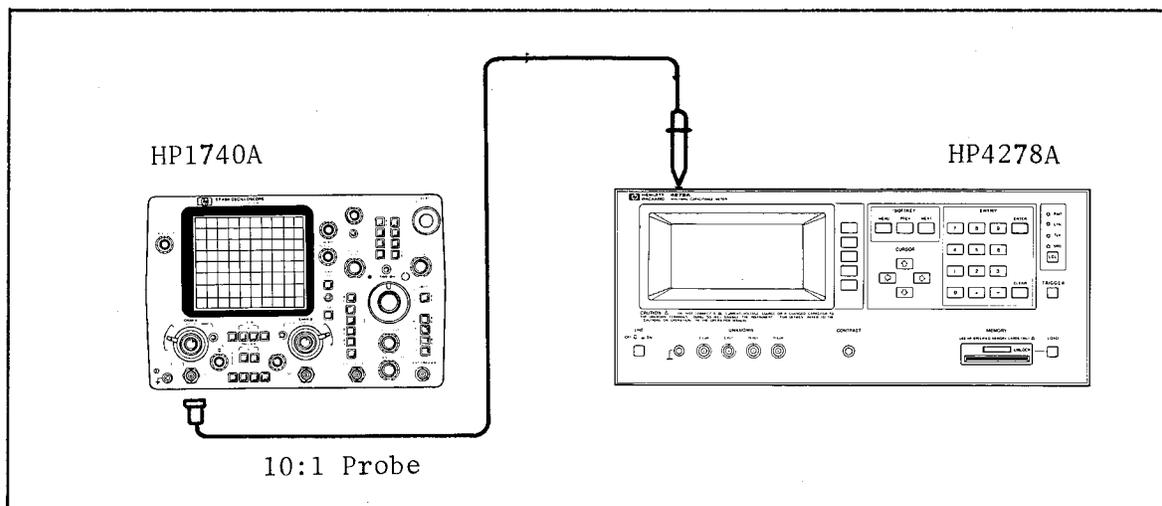

Figure 1-2. Power Supply Frequency Adjustment Setup
3. Connect the 10040A to the **CHAN A INPUT** of the 1740A. Figure 1-2 shows the setup for this adjustment.